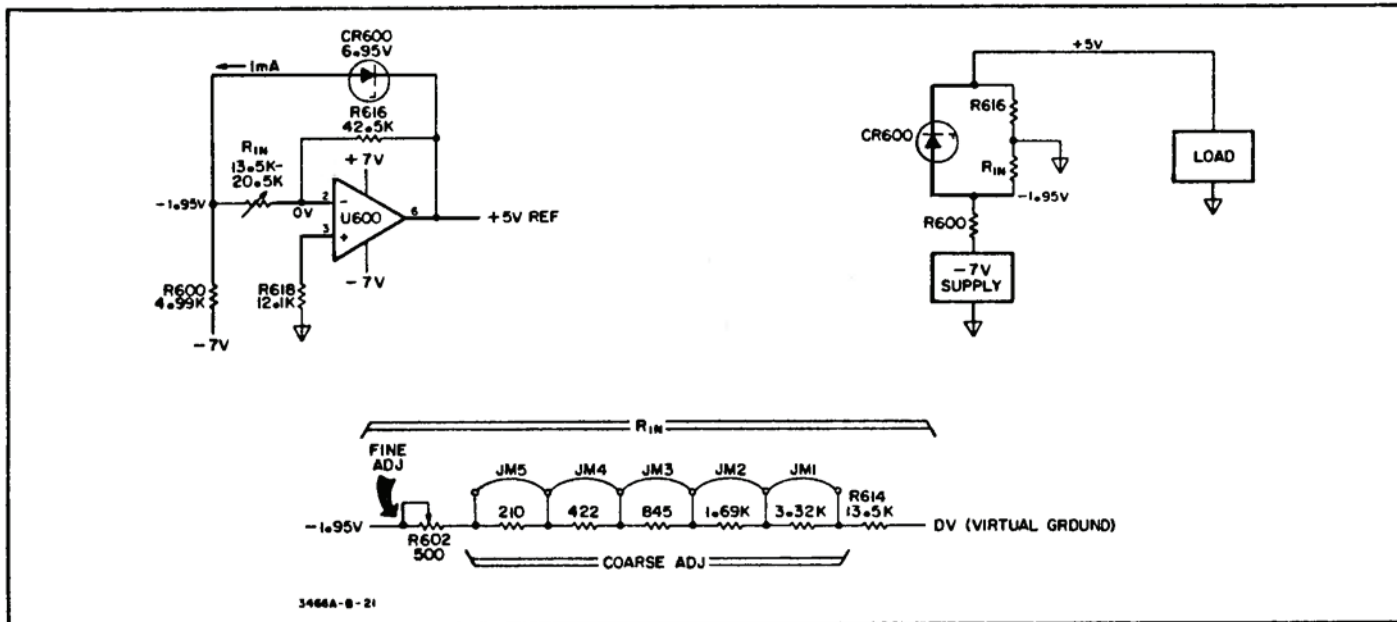

Figure 8-3. 5V Reference Supply Simplified Schematic
**8-24. 5V Reference Supply.** Refer to Figure 8-3 and schematic number 3. The 5V reference supply consists of reference diode (CR600), OP Amp (U600), and associated
resistors. The OP Amp is used to provide a low output voltage source impedance and a virtual ground between R616 and RIN as shown in Figure 8-3. The voltage drop across the two resistors (R616) and RIN is set by the reference diode to 6.95V. If the junction between RIN and R616 is ground and if R616 is a fixed resistance (42.2K), RIN can be adjusted to divide the 6.95V reference voltage into 1.95V across RIN (negative with respect to ground) and 5V across R616. The result is +5V reference supply that has a low source impedance and is as stable as the reference diode.